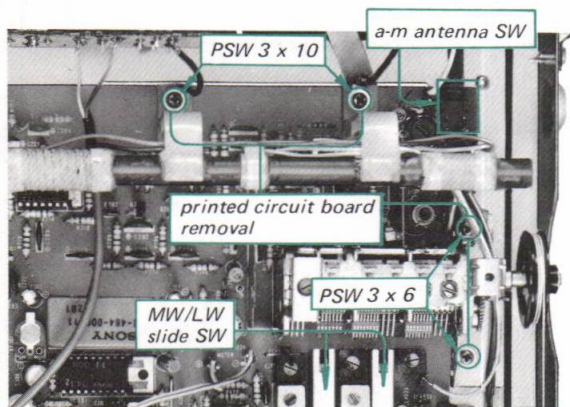

Fig. 2-9. Printed circuit board removal
2. Remove the four screws shown in Fig. 2-9. This frees the printed circuit board.
(See Fig. 2-9)